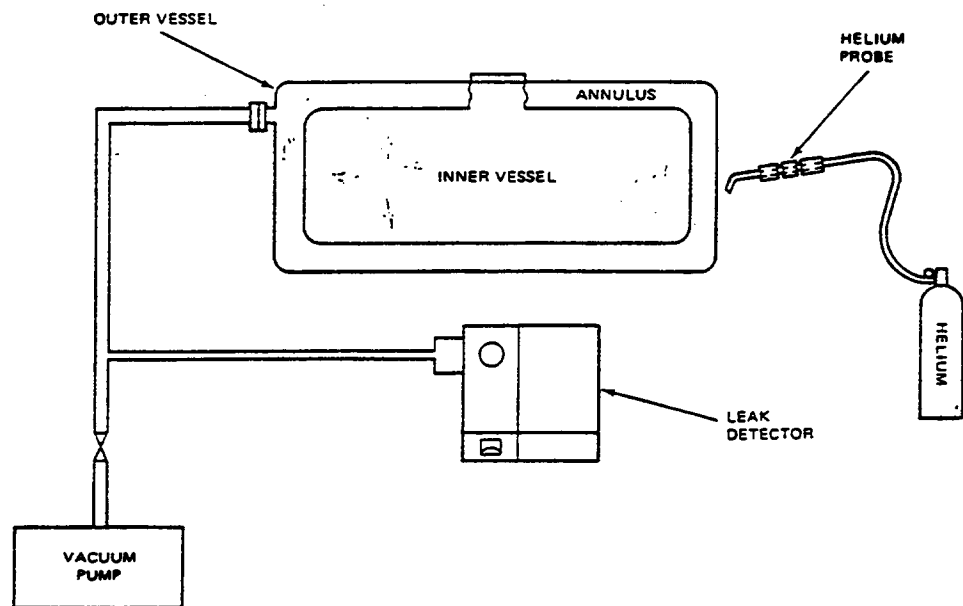

Figure 5-4. Annular Space Efficiency Test.
**5-5.4 Vacuum Efficiency Test Procedure** (See Figure 5-4). The use of the Dual Efficiency Meter is recommended, if available, in lieu of the portable vacuum gauge for determining the efficiency of the Tank vacuum. The vacuum gauge is used in the procedures as follows:
a. Attach a portable thermocouple (vacuum) gauge (Refer to Table 2-1) receptacle to the vacuum sensor as shown in Figure 5-4.
b. Open the vacuum indicator shutoff valve (V-2) and allow the system to stabilize for two (2) minutes before proceeding.